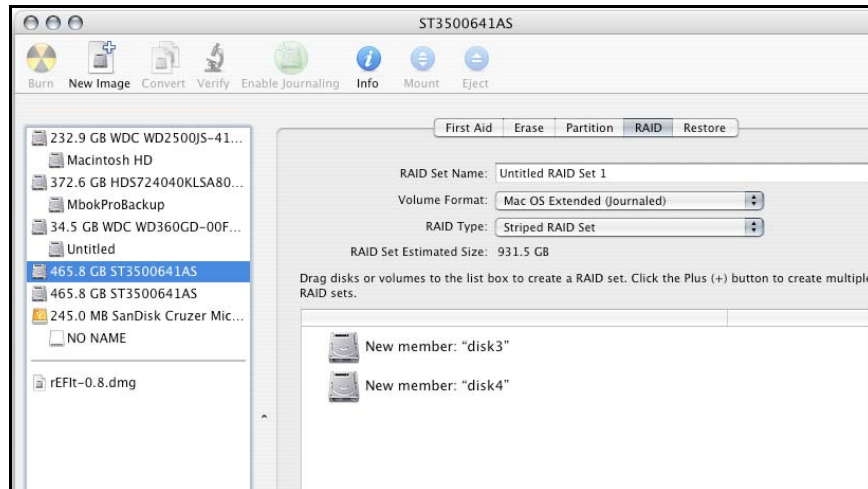

Figure 12: Example drives and options for a RAID volume;
5. Carefully select and drag a hard drive to add as a member of the new RAID volume onto the *Disk* status window (Figure 12).